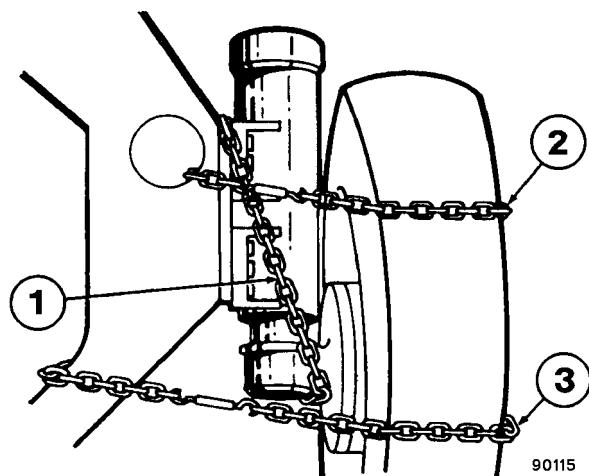

FIGURE 3-10. WHEEL SUPPORT CHAIN INSTALLATION
4. Wrap chain and binder (2, Figure 3-10) around the top half of the tire. Secure the chain through the frame. The chain must be tightened enough to prevent movement during the bearing adjustment procedure when the retainer plate is removed.
5. Install another chain and binder (3) around the bottom half of the tire and tighten enough to prevent movement during the bearing adjustment procedure.
NOTE: A chain may also be installed to prevent full extension of the suspension cylinder when the truck is raised off the ground. Refer to 1, Figure 3-10.
7. Remove cap screws and hardened flat washers (9), bearing retainer plate (7), and shims (10).
8. Place the bearing retainer plate into position on the wheel hub. Position the plate with the dimension stamp facing outward. DO NOT install the shims at this time. Install cap screws and hardened flat washers (9).
9. Remove chain and binders (2 and 3, Figure 3-10).